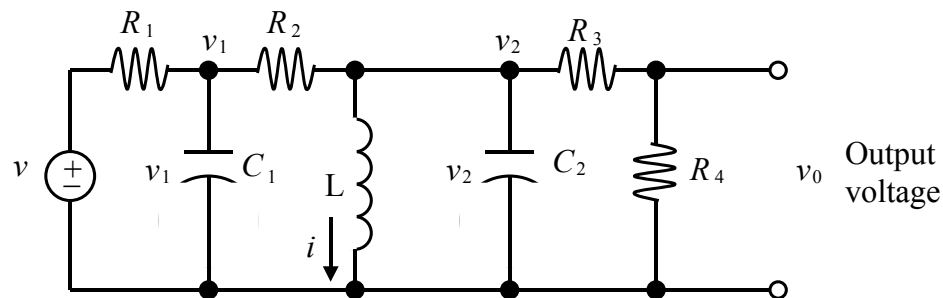

Figure P2. RLC circuit.
2. Determine the state variable matrix differential equation for the circuit shown in Fig. P2. The state variables are $x_1 = i$, $x_2 = v_1$, and $x_3 = v_2$. The input variable is $v(t)$ and the output variable is $v_0(t)$.